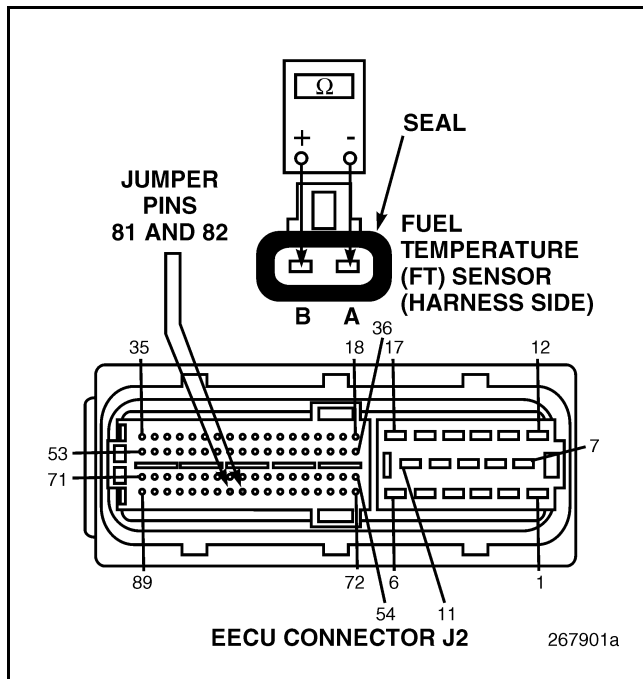

Figure 56
2. Disconnect the Fuel Temperature (FT) Sensor connector.
4. Connect a jumper between EECU harness connector J2 pins 81 and 82 (see Figure 56).